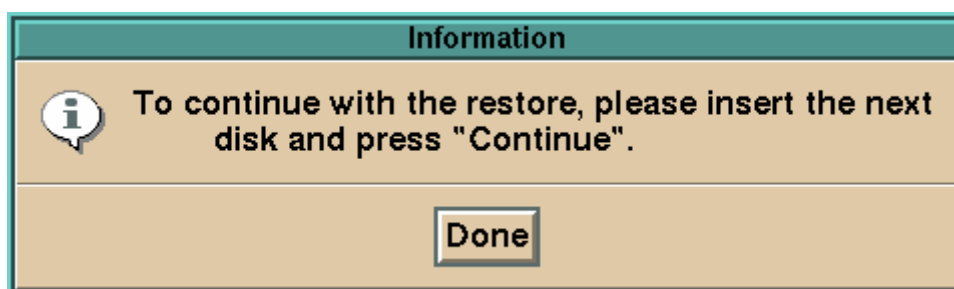

Fig. 6.10-7 Dialog requesting MOD/DVD Replacement
- (4) Click [OK] button to start restoring data from the MOD/DVD to the magnetic disk.
- (5) In case the files to be restore have been backed up in two MODs/DVDs, when restoring process from the first MOD/DVD is completed, the dialog shown in fig. 6.10-7 is displayed. After confirmation, click [Done] button and replace the MOD/DVD with another MOD/DVD where the remaining backup data are stored. When the new MOD/DVD is identified, click [Continue] button. The restoring operation is continued.